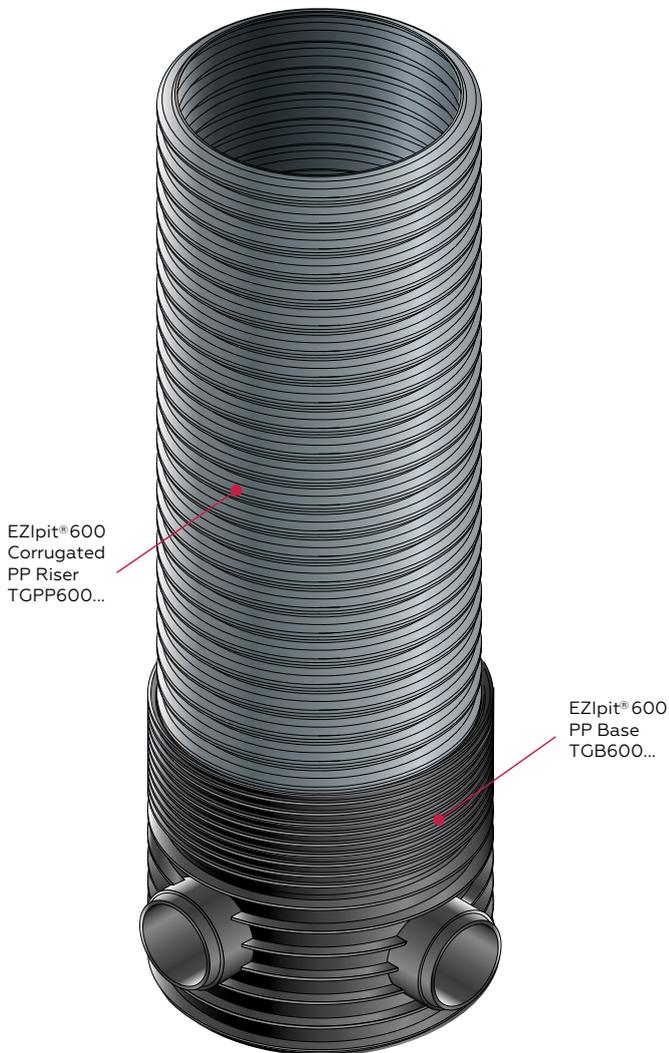

Figure 36: EZIpit® 600 Base & Riser assembly.
**Class B GATIC® cover arrangement Option 3 (flat or sloped finished surface). Refer to Figure 36.**